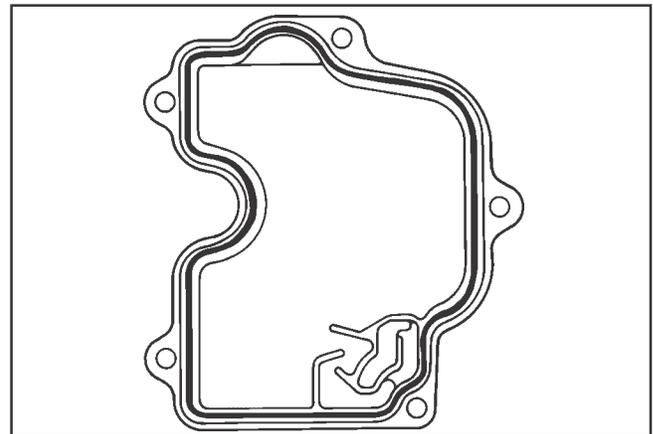

Figure 11-43. Valve Cover Sealant Pattern.
2. Apply a 1/16" bead of sealant to the cylinder head as shown in Figure 11-43.